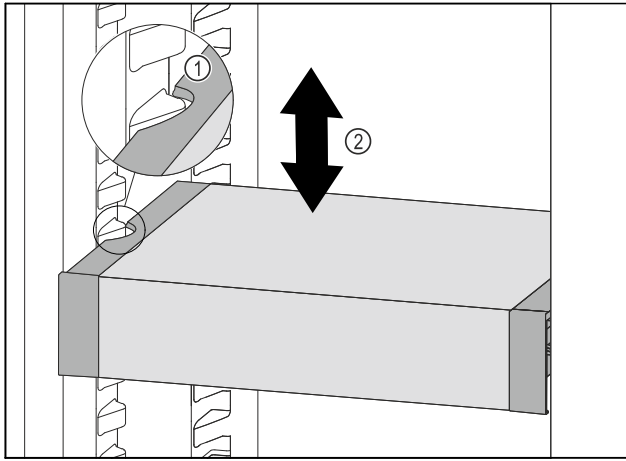

Fig. 67
- ▶ Pull VarioSafe forwards until the recesses in the side of the VarioSafe are at the level of the support rib in the refrigerator compartment. *Fig. 67 (1)*
- ▶ Move VarioSafe up or down in the refrigerator compartment until the desired height is reached. *Fig. 67 (2)*